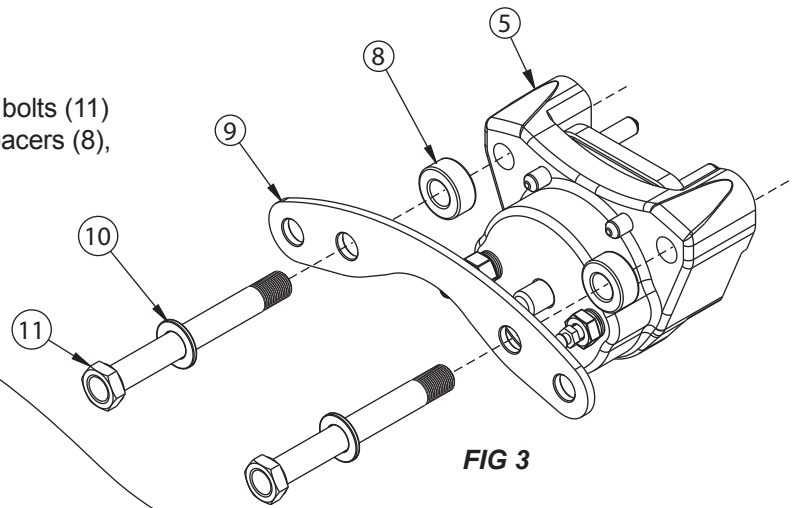

FIG 3
**Step 3** - Install the caliper bolt washers (10) over the caliper bolts (11) and slide the bolts through the float bracket (9), bracket spacers (8), and the inner caliper (5) as shown in Fig 3.